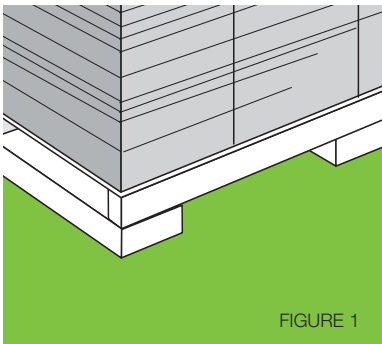

FIGURE 1
- Covered on a pallet and must not be stored directly on the ground (figure 1)
- Stored flat and above ground (figure 1)